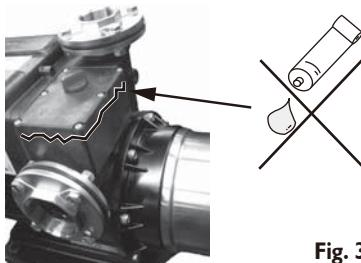

Fig. 3
7. Regular maintenance requires to open the prime cover in order to access the check valve. DO NOT apply any bonded material (such as silicon, glue etc) to seal the chamber cover ( See Fig 3 ).